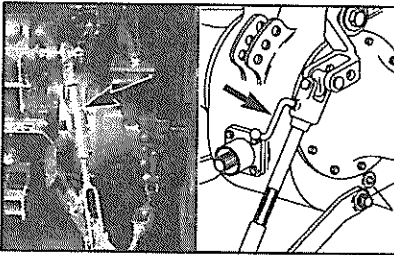

FIG. 10 - LEVELING "CRANK" ON LIFTING LINK
- (a) Raise the auger point off the ground. Turn the adjusting screw (or crank) on the lifting link (see Fig. 10) until the auger appears vertical, looking from the tractor seat.